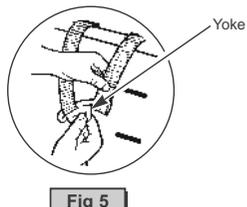

Fig 5
- Three pairs of slots are provided for the shoulder straps to enable the shoulder straps to be adjusted as the child grows (Fig 5). The correct pair of slots should be selected so that when the child is sitting in the child safety seat, the shoulder straps are attached at the same height as, or slightly above the child's shoulders. The position of these straps must be adjusted as the child grows. If the shoulder straps require moving from one pair of slots to another, the harness sleeves must also be moved to the same pair of slots, adjust as follows:
- Open buckle and remove from seat by passing the metal retainer which is attached to the end of the crotch strap; through the slot in the base of the seat, then through the slot in the cover, now pass each strap of harness through the slot in the shell and cover, having first removed other end from yoke (Fig 5).